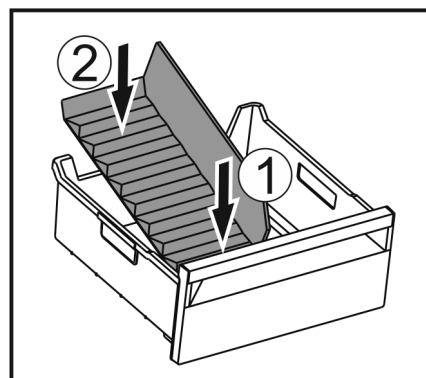

Fig. 79
- ▶ Insert the front part of the ice compartment divider. Fig. 79 (1)
- ▶ Lower the rear part of the ice compartment divider to the drawer bottom. Fig. 79 (2)